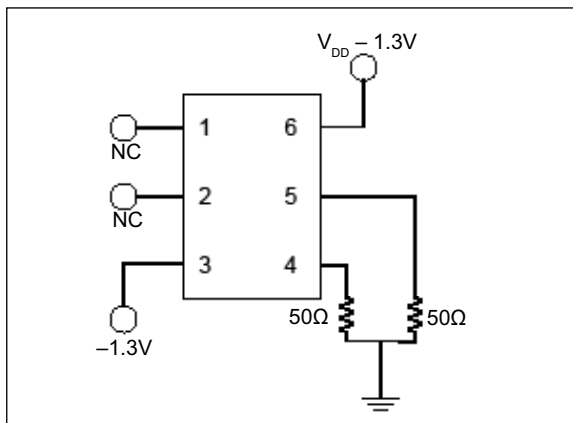
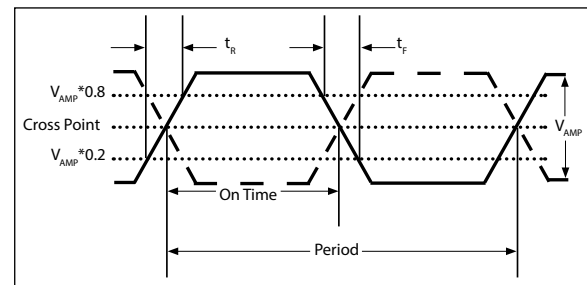
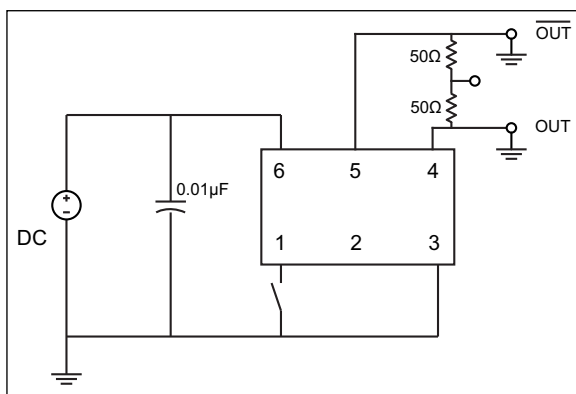

FIGURE 1-1: Test Circuit.
FIGURE 1-2: Test Circuit Parameters.
FIGURE 1-3: Test Circuit.
- Note 3:** Figure 1-1 defines the test circuit and Figure 1-2 defines these parameters.
- 3:** Figure 1-1 defines the test circuit and Figure 1-2 defines these parameters.
- Note 3:** Figure 1-3 defines the test circuit and Figure 1-2 defines these parameters.
- 3:** Figure 1-3 defines the test circuit and Figure 1-2 defines these parameters.